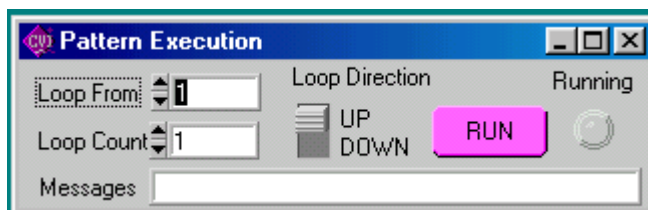

FIGURE 14. PATTERN EXECUTION WINDOW
2.2.10.1 The **Pattern Generator Open** button opens the Pattern Generation Window (Figure 13); the **Pattern Execution Open** button opens the Pattern Execution window (Figure 14).
2.2.11 The Pattern Execution window (Figure 14) allows the program established by the pattern generation window to be executed. If the **Loop Direction** is set to UP, the **Loop From** window establishes the point in the loop that will start repeating. For example, if the list is 10 points, and **Loop From** is set to 3, the first 2 points would only be executed once, and the points from 3 to 10 would be repeated the number of times specified in the Loop Count Window. If **Loop Count** is set to 0 the program will run continuously until stopped by the user. The **RUN** button starts the program. While the program is running the **Running** indicator is on and the **RUN** button changes to a **STOP** button used to halt the program. When the program is halted, the unit reverts to the settings in effect prior to issuing the RUN command.